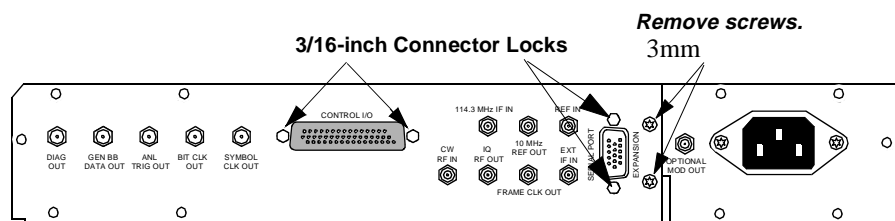
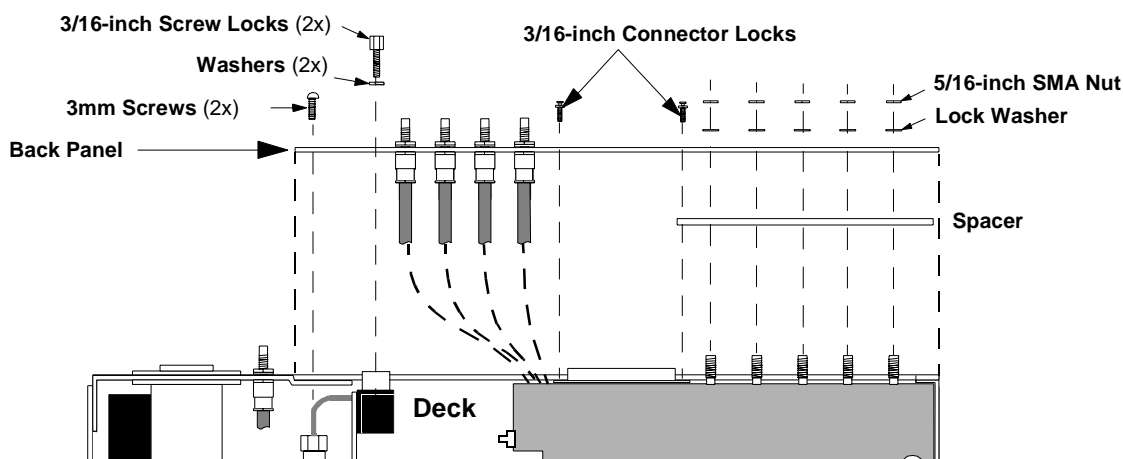

Figure 24 Removing the Back Panel Connector Locks and Screws
Figure 25 Removing the Back Panel
2. Remove the 3/16-inch connector locks and two 3mm by 12mm screws shown in figure 24 and figure 25 .
3. With a 5/16-inch wrench or nut driver remove five SMA nuts and lock washers and pull the back panel away from the deck as shown in figure 25 .